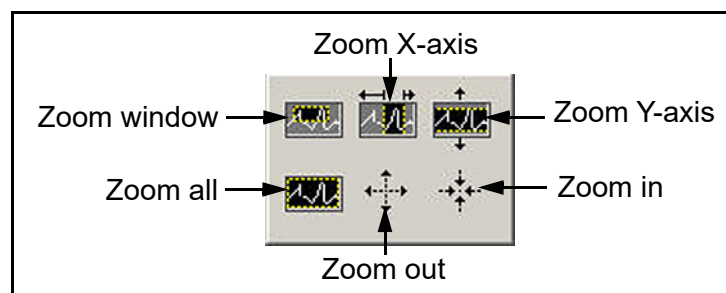

Figure 45: Zoom Tool
- Zoom Tool - gives you six options as shown in *Figure 45* below.